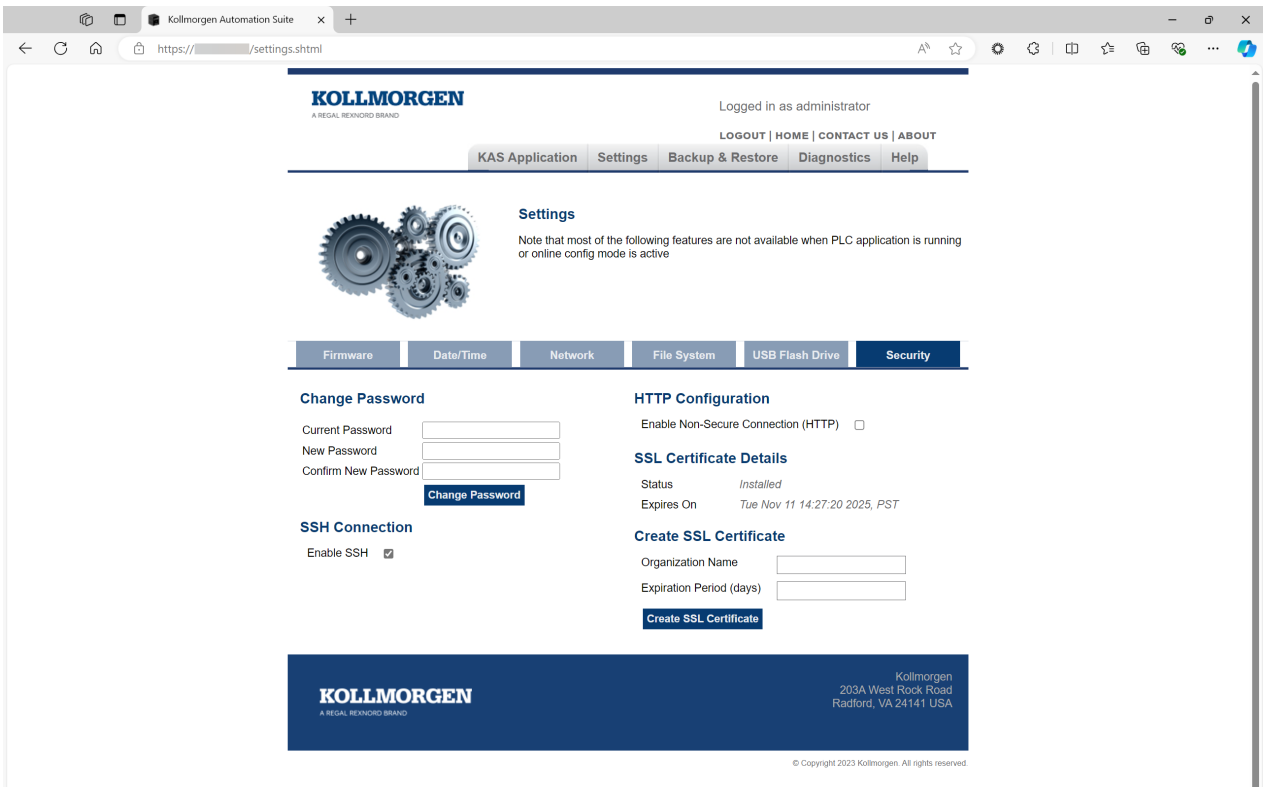

Figure 9-44: SSL Certificate Details area with certificate information
- The **SSL Certificate Details** area shows the **Certificate Status** and expiration date. (Figure 9-44)